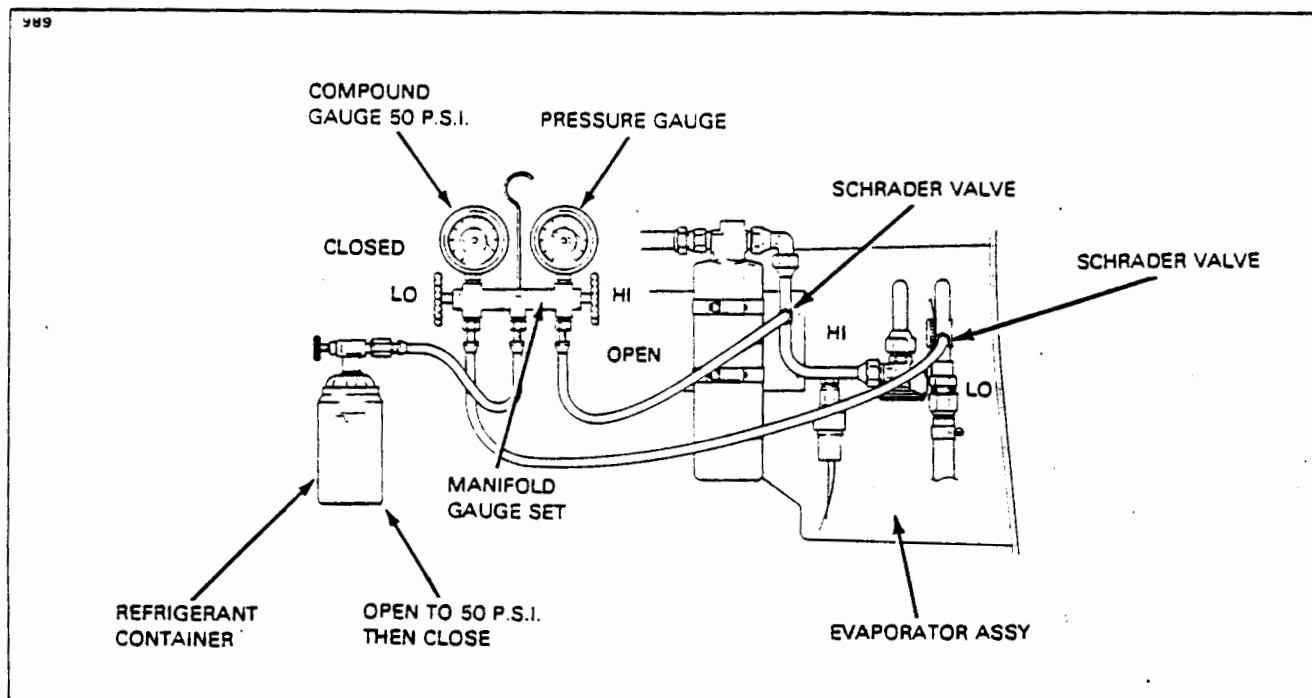

Figure 21-27. Leak Test Hookup
- A. Connect the manifold gauge set into the system and determine if there is any refrigerant in the system. A minimum of 50 psi refrigerant pressure in the system is needed for leak detection. (Refer to Figure 21-27.)